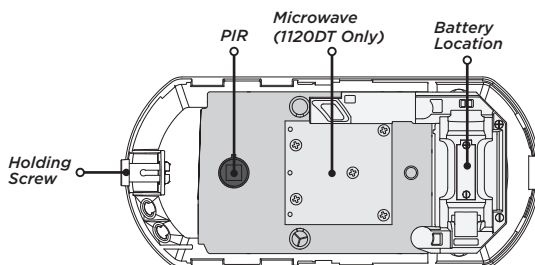

Figure 2: 1120/1120DT Housing and PCB
2. Observing polarity, place the battery in the holder and press into place. See Figure 2 for the battery location.
2. Remove the old battery and dispose of it properly. See *Figure 2* for the battery location.